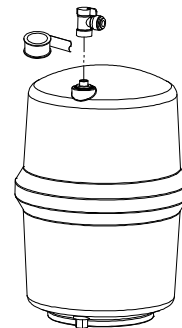

Fig 8
1. Apply teflon (PTFE) tape to threaded fitting at top of tank. Wrap tape around clockwise 10 to 13 times for a good seal(Fig 8).
2. Attach ball valve and tighten it(Fig 8).